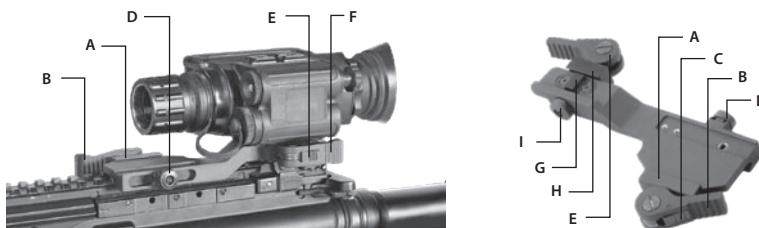

FIGURE 3-5. MOUNTING THE SPARK TO A WEAPON WITH A QUICK-RELEASE PICATINNY MOUNT ADAPTER
- While pushing down on the lever holder (C), turn the lever (B) backwards to loosen the QRM clamping device (A).
- Install the QRM on the weapon rail by inserting the stop (not shown in Figure 3-5) into one of transverse slots of the weapon rail.
- To secure the QRM onto the weapon rail, turn the lever (B) forward. Secure the clamping device (A) tightly to the weapon rail. To adjust the force of the lever clamp, loosen or tighten the nut (D) as necessary:
- When the clamping device (A) unlocked, push the lever holder (C) so that the nut (D) gets out of its hollow.
- To tighten/loosen clamping device, turn the nut (D) CW/CCW, respectively, by one-two increments (the eight-sided nuts of the AIM clamping devices fit their hollows only if turned in one of the discrete positions), when the holder (C) pushed. Just as the holder (C) released, backmoving springs makes the nut (D) get back into its hollow.
- While pushing down on the lever holder (F), turn the lever (E) forward.
- Install the Spark on the QRM rail by inserting the stop (G) into the transverse slot of the unit rail.
- Attach the Spark to the QRM rail by turning the lever (E) backwards. Secure the QRM clamping device (H) tightly to the Spark rail. To adjust the force of the lever clamp, loosen or tighten the nut (I) as necessary.